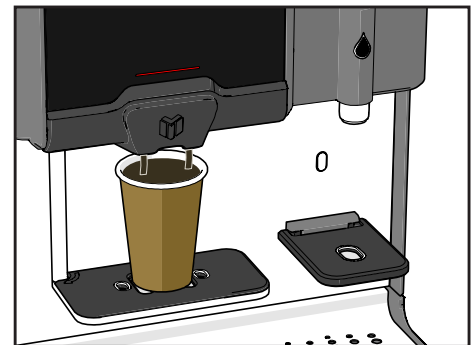

Figure 34.
24. Take a 'test' consumption of each product (see Figure 34).